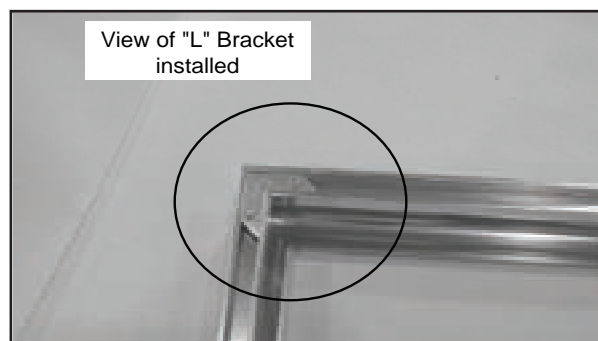

Figure 21.4
2. Assemble the gold trim with the (2) corner brackets provided. **Figure 21.4.**